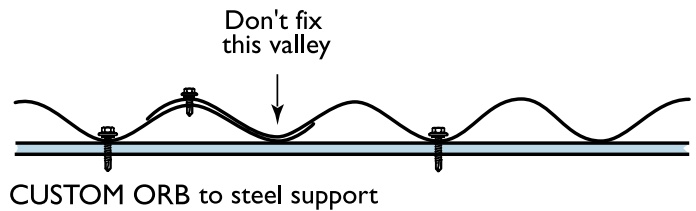

Figure 15.4.1
- there is no risk of the profile being deformed, because the fastener is placed through the cladding where it rests flat against its support (Figure 15.4.1); and
Side-lap fasteners are located in the centre of the crest of the overlapping rib (Figures 15.4.1 and 15.4.2)